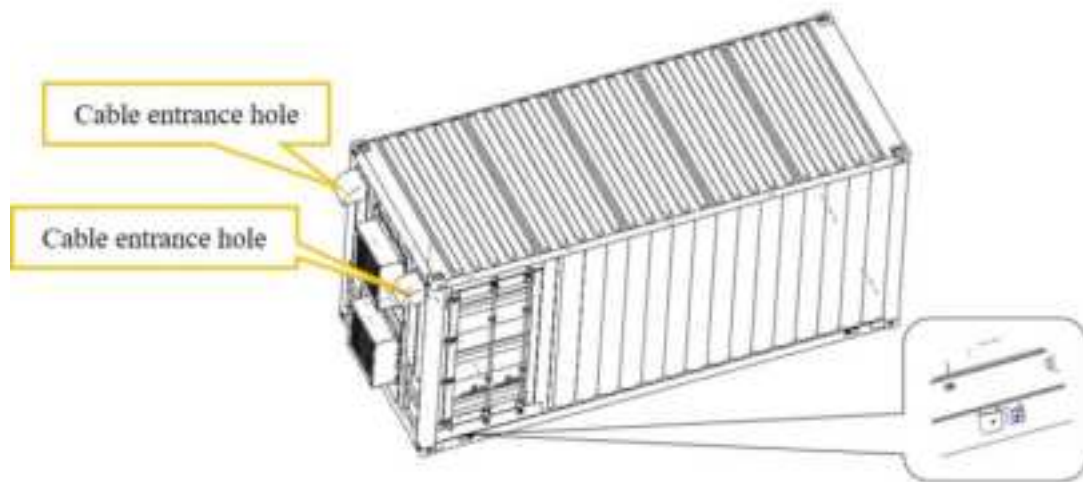

Figure 6.4 Cable entrance holes (under the rain cover).
- a. Connect the cable from the upper two holes on the side of the container exhaust fan. Specific location is shown in Figure 6.4 (Note: Use the rain cover in the accessory for protection). The cable is connected from the top wiring box of the two power distribution cabinets, extends to the corresponding copper block, and is fixed with screws.
- b. There are grounding studs on both sides of the container. Ensure that the shell of the container is reliably grounded. At least two diagonal corners of the container should be reliably grounded. Specific location is shown in Figure 6.4.